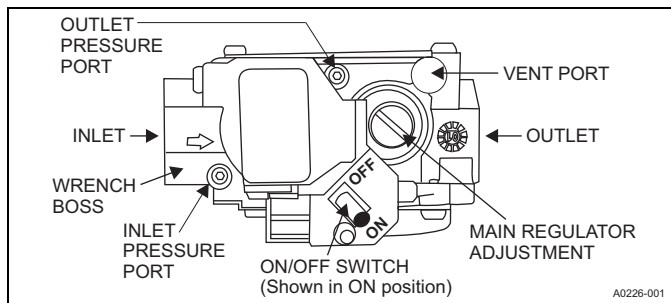

Figure 9: Gas valve
You can measure inlet gas pressure and manifold gas pressure by connecting the U-tube manometer to the gas valve with a piece of tubing. Complete the steps in the *Preparing to read gas pressure* section and follow the steps in the *Reading the inlet gas pressure* section or the *Reading the manifold gas pressure* section as required. See Figure 9 for the locations of the pressure ports on the gas valve.
2. Connect the positive side of the manometer to the **IN P** tap on the gas valve. Do not connect any tubing to the negative side of the manometer, because it references atmospheric pressure. See Figures 9 and 10 for connection details.
2. Connect the positive side of the manometer to the **OUT P** tap on the gas valve. Do not connect any tubing to the negative side of the manometer, because it references atmospheric pressure. See Figures 9 and 10 for connection details.
3. See Figure 9 for the location of the pressure regulator adjustment cap and adjustment screws on the main gas valve.